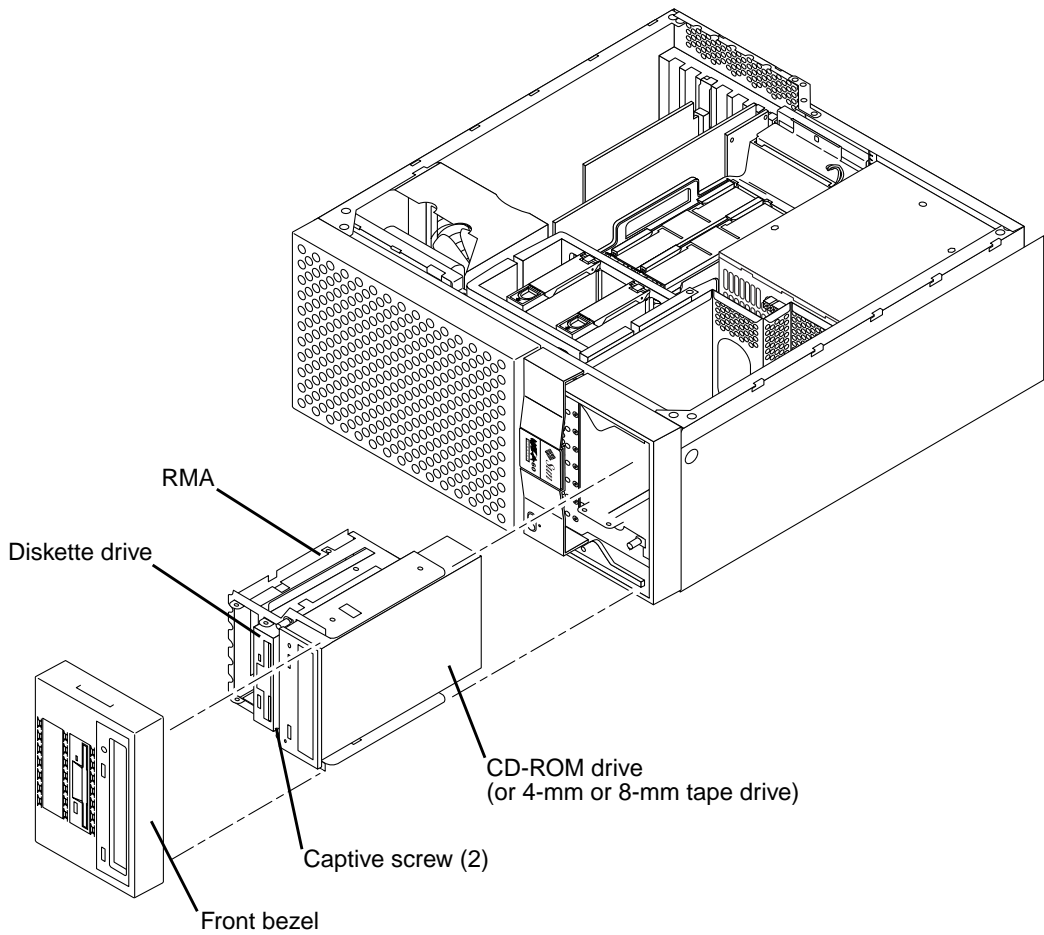

FIGURE 1-2 Removing the Removable Media Assembly
1. Remove the RMA as follows (FIGURE 1-2):